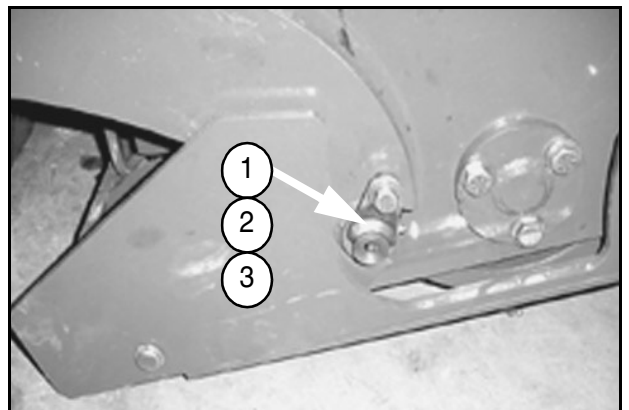

Figure 37.
1. Install the pivot pin through the pivot arm into the chassis as shown in Figure 37.
2. Assemble one 1/2" x 1-3/4" – 11 bolt (1), one 1/2" flat washer (2), and one 1/2" lock washer (3) and torque to 110 lbs-ft. (149 N-m).